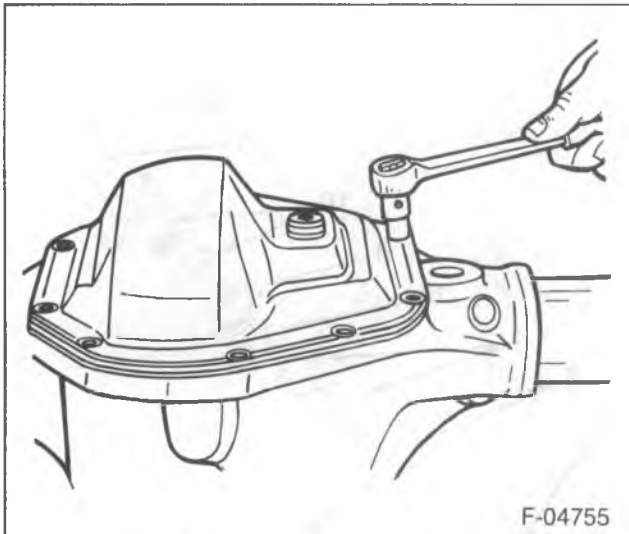
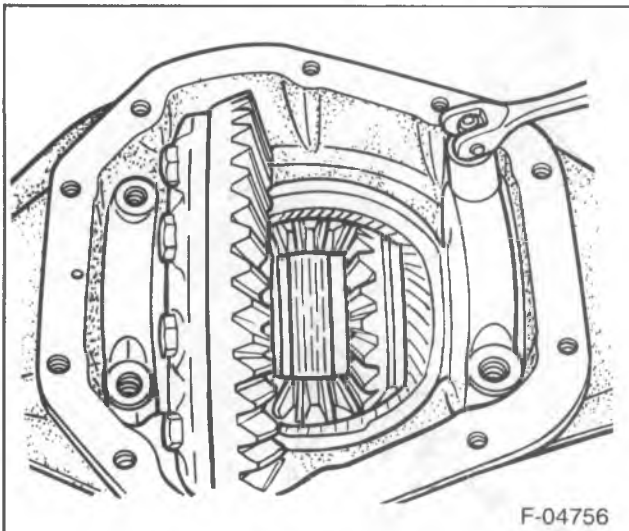
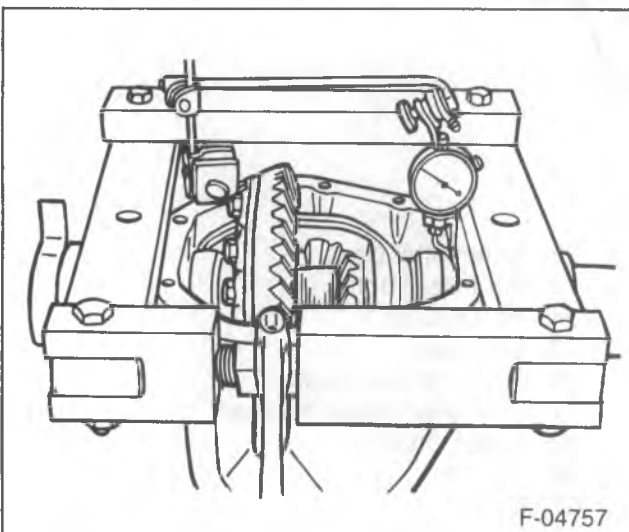

Figure 2—Removing the Axle Cover
Figure 3—Removing the Bearing Cap
Figure 4—Spreading the Differential Case
- 1. The differential cover bolts (17) and the differential cover (14) (figure 2).
- 2. Axle shafts (38). Refer to the proper service manual.
- 3. Bearing cap bolts (19) (figure 3).
- 4. Bearing caps (18).
- Assemble J 24385-01 to the differential housing as shown in figure 4.
- Assemble the dial indicator as shown in figure 4. Preset the gage at least 0.020-inch, and then rotate the gage housing to zero the dial.